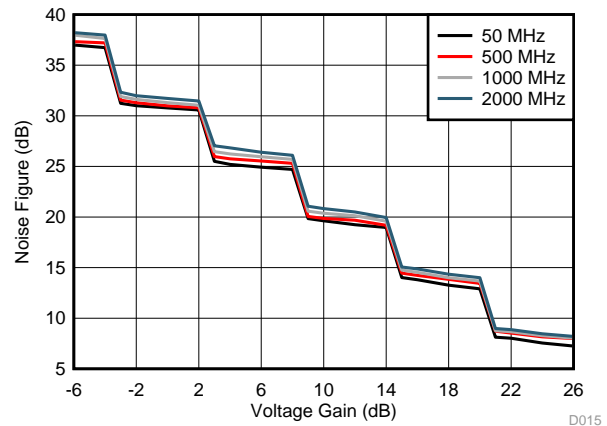

Figure 26. Noise Figure vs Gain Settings
The LMH6401 is best suited to optimize system linearity and noise performance over the entire gain range in the RF and IF bands. Operating on a nominal 5-V supply or ± 2.5 -V split supplies, the device consists of an attenuator stage followed by a fixed-gain amplifier to provide voltage gain control from -6 dB to 26 dB in 1-dB steps (as shown in the *Functional Block Diagram* section) with an overall 32-dB gain range. The variable gain control for the device is offered through the digital serial peripheral interface (SPI) register. The device has a unique attenuator ladder architecture providing dynamic range improvements where the overall noise figure (NF) remains relatively constant for the first 5-dB attenuator steps, with NF degrading proportional to the attenuator steps on the sixth step. This behavior repeats over the entire gain range; see Figure 26.